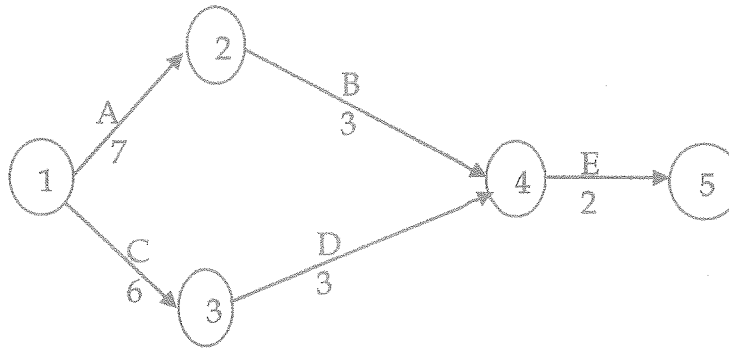

Figure Q2-1 Network Diagram of a Project
- c) Figure Q2-1 shows the activity network diagram for a small project. Determine the project duration and the critical path of this network diagram. Each activity duration is given in days. [2.0 Marks]